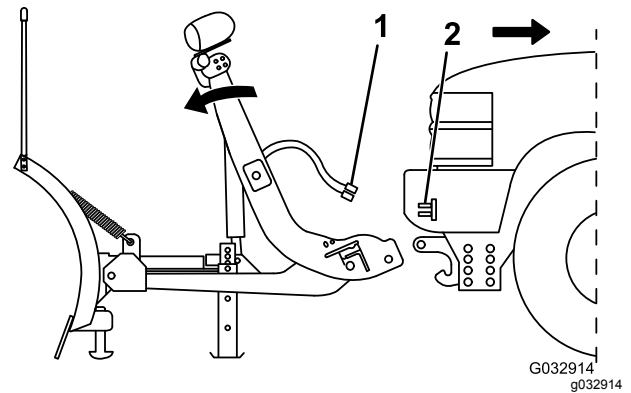

Figure 38
5. Push the SmartHitch2 switch on the side of the coupler tower up to release the pins, then down to lower the tower completely (Figure 38).
6. Disconnect the plow wire harness from the vehicle wire harness and secure the electrical-plug dust covers (Figure 38).